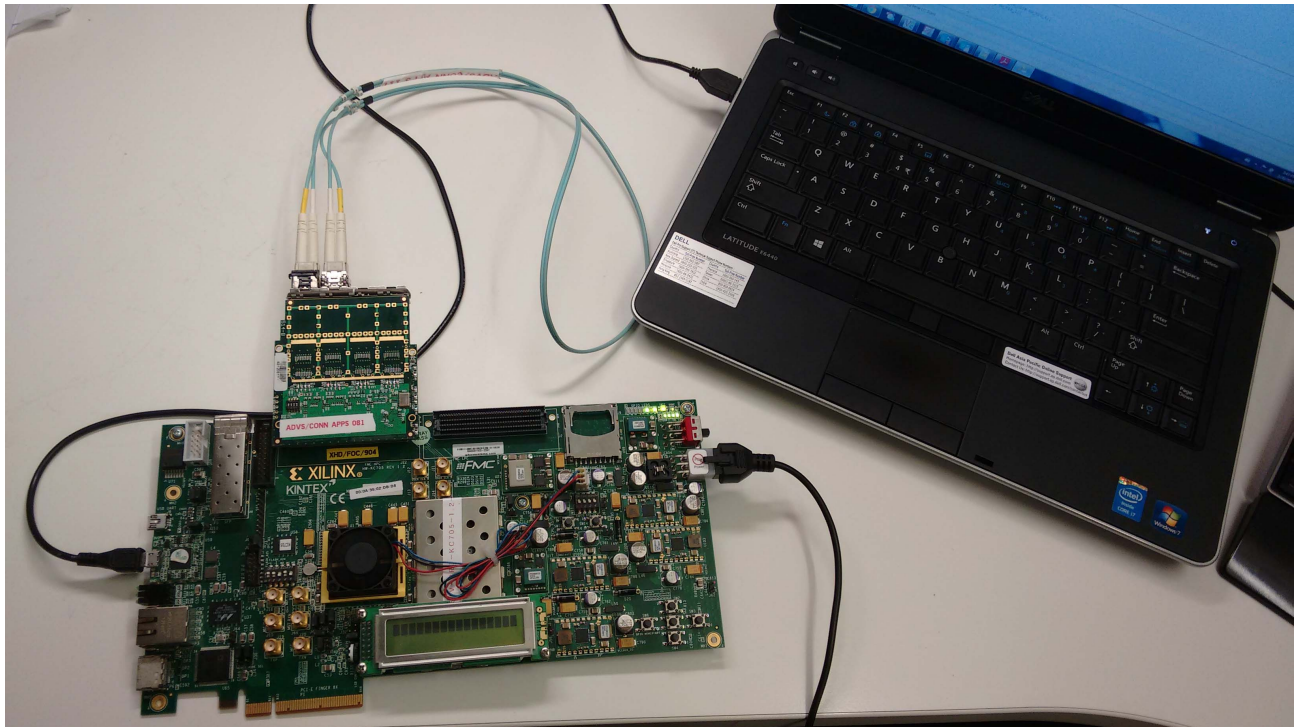

Figure 5: Hardware Setup
1. Connect the KC705 board to the control computer and power supply as shown in Figure 5.